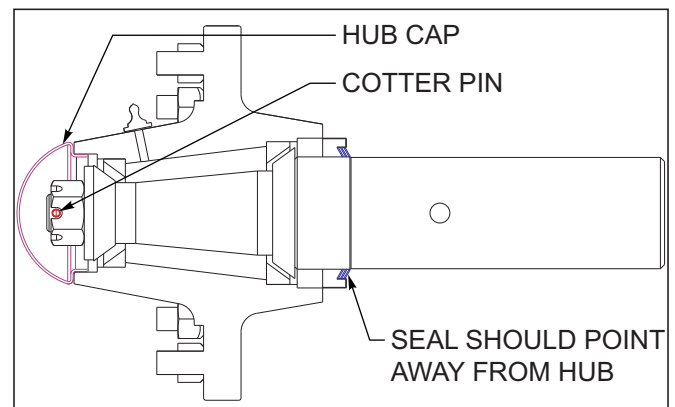

Figure 4-14: Triple Lip-Seal
*The triple-lip seals should point away from the hub to keep contaminants out and allow grease to pass* *See Figure 4-14.*
11. Install a new cotter pin and replace the hub cap. *See Figure 4-14.*